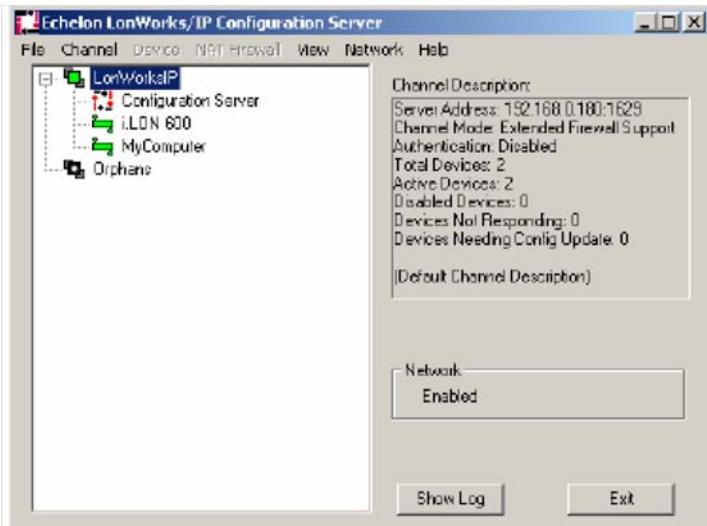

Figure 28: Echelon LonWORKS IP Configuration Server Dialog Box
1. From the Start menu, select Echelon *i*.LON 600 > LONWORKS-IP Configuration Server. The Echelon LONWORKS IP Configuration Server dialog box appears (Figure 28).